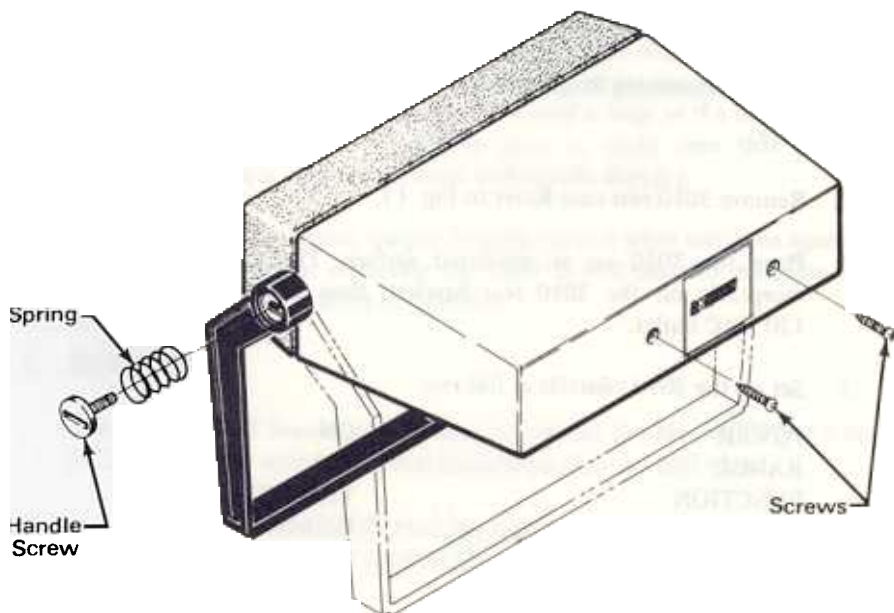

Fig. 17. Removal of rear case.
- Use a coin (a quarter works best) to remove the two screws that hold the handle to the case. Use caution to avoid losing the springs beneath the screws that hold the handle on the case. Remove the handle. The handle may be reversed if the user desires; refer to Fig. 17.
Remove 3010 rear case Refer to Fig. 17.
8. Disconnect the scope probe and counter from the 3010 600 Ω OUTPUT. Carefully re-install the rear case (refer to Fig. 17)
Remove case (Fig. 17).